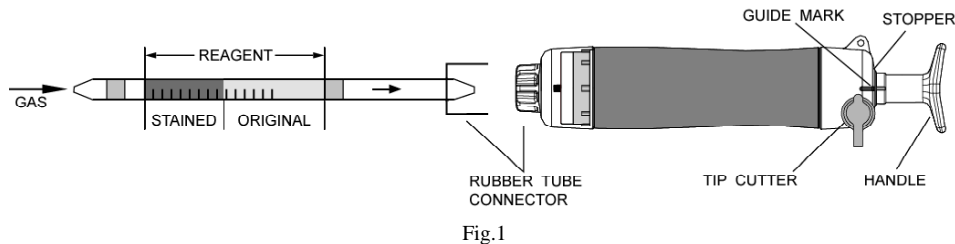

Fig.1
- ② Insert the detector tube into aspirating pump securely as shown in Fig.1. (Arrow mark shall point to the pump.)
- ③ Align the guide marks on the shaft and stopper of the aspirating pump.
- ④ Pull the pump handle at full stroke until it locks and wait for 1 minute or until the completion of sampling is confirmed with the flow indicator of the pump (See descriptions about the flow indicator in the instructions of the pump).
- ⑤ Push the handle without removing the detector tube from the inlet, and air in the pump will be discharged perfectly. Then repeat the step ④ twice again.
- ⑥ On completion of sampling, read the scale at the maximum point of the stained layer.
- ⑦ When concentrations are below or over the scale range, another pump strokes can be used to determine